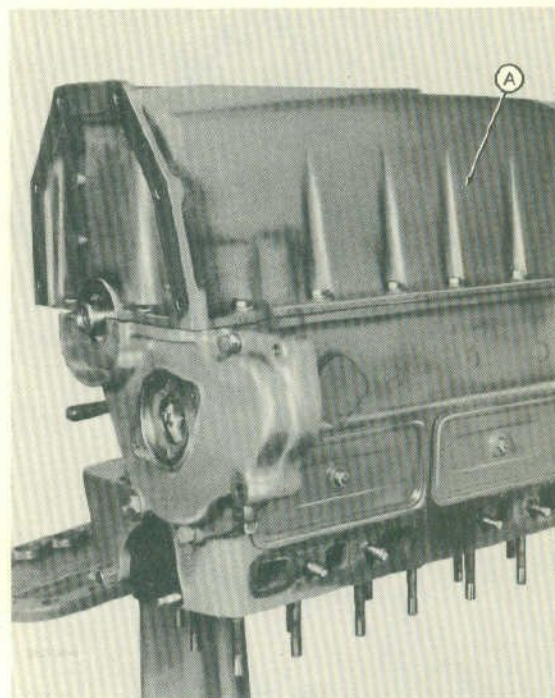

Fig. 1
Step 1—Turn the engine on the stand so that the pan is up as shown in Figure 1.
Step 2—Remove the pan (A-Figure 1) and gasket.